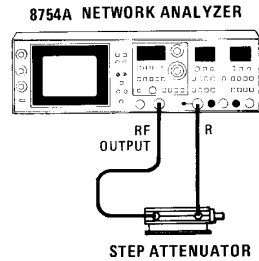

Figure 4-11. Minimum R Input Level Test Setup
1. Connect equipment as shown in Figure 4-11. Set step attenuator to 0 dB.